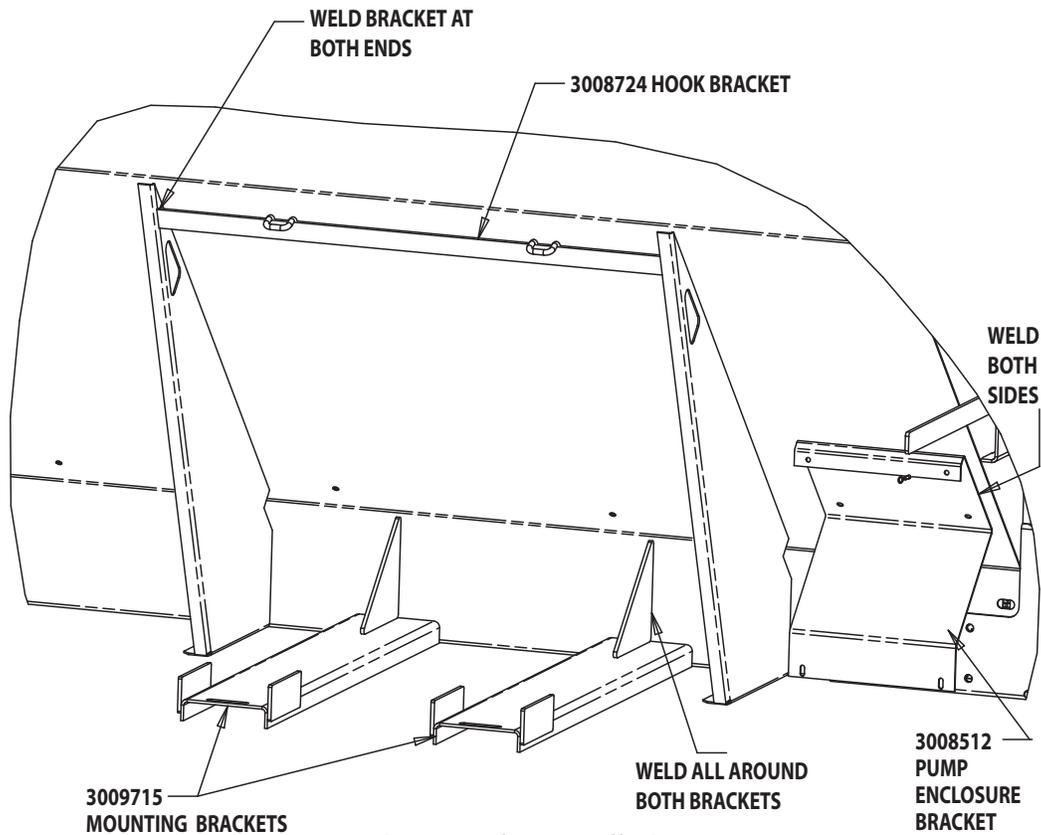

Fig. 1 Bracket Installation
- 1.** Position pump enclosure bracket (#3008512) (see fig. 1) and pump enclosure (#WSE22) (see fig. 2) at left rear corner of hopper spreader, (see figs. 1 & 2). Make sure pump enclosure and bracket do not interfere with operation of other accessories such as the feedgate lever, engine hood, etc.
- 3.** Position reservoir (#WSE26), tie bar (#3008589) (see figs. 1 & 2) and mounting brackets (#3009715) on left side of hopper between side gussets. Make sure reservoir is positioned for adequate plumbing clearance and to remove filler/breather cap.